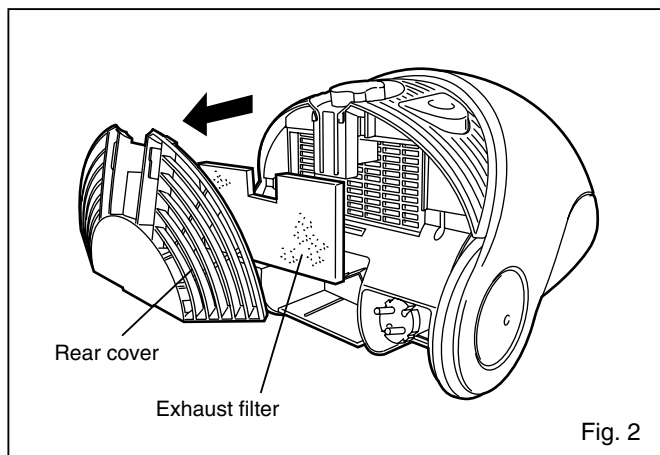

Fig. 2
2. Remove the rear cover and exhaust filter. (Fig. 2)